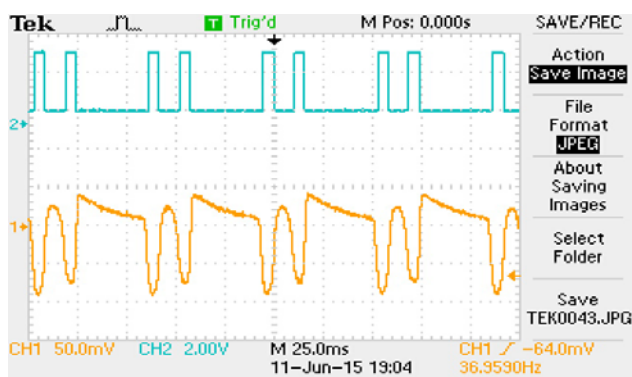
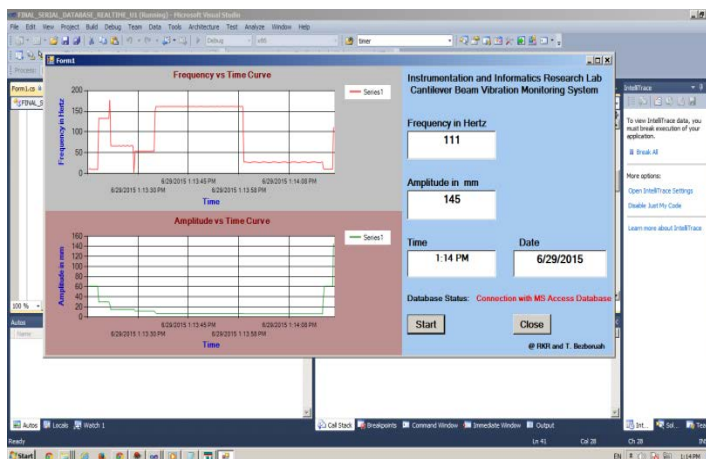

Fig. 1: Snapshot of DSO
Fig. 2: Snapshot of monitoring PC GUI
Abstract—This paper describe the design and development of a prototype sytem for measurement of frequency of the noisy and irregular waveform of electrical signal. The prototype consisting of dedicated harware for signal conditioning circuit for removing noise and level translation, data acquisitions circuit based on atmel avr ATmega8 microcontroller, RS232 serial communication harware for networking, Personal Computer (PC) with the state of the art software for developing front end Graphical User Interface (GUI) for displaying data and storing data in MS Access 2010 database for future retrieval and analysis, a web application for monitoring the frequency remotely. The differential amplifier is used to remove the noise and comparator circuit is used to converted the signal into TTL Logic without any modification in the time period. In this way a noisy signal of irregular waveform converted into TTL signal which is further processed by microcontroller interfaced via timer pin. The GUI display continuously the frequency in Hertz in textbox as well as graphical plots with respect to time at which PC received the reading. The programme hosted in PC implemented in Visual Studio 2010, C# language and programme running in microcontroller written in C and Atmel Studio6.0 is used to compile and generate the Hex code. The Figure1 shows the snapshot of the Digital Storage Oscilloscope (DSO) displaying irregular waveform of the noisy electrical signal and output of the signal conditioner circuit which is purely TTL. The Figure2 shows the snapshot of monitoring PC GUI.